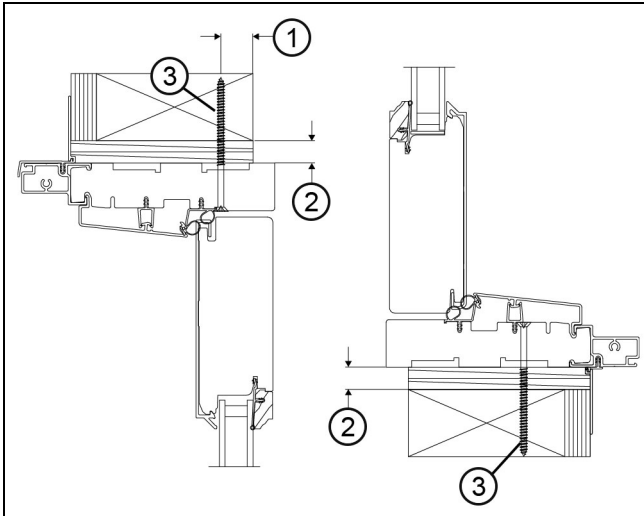
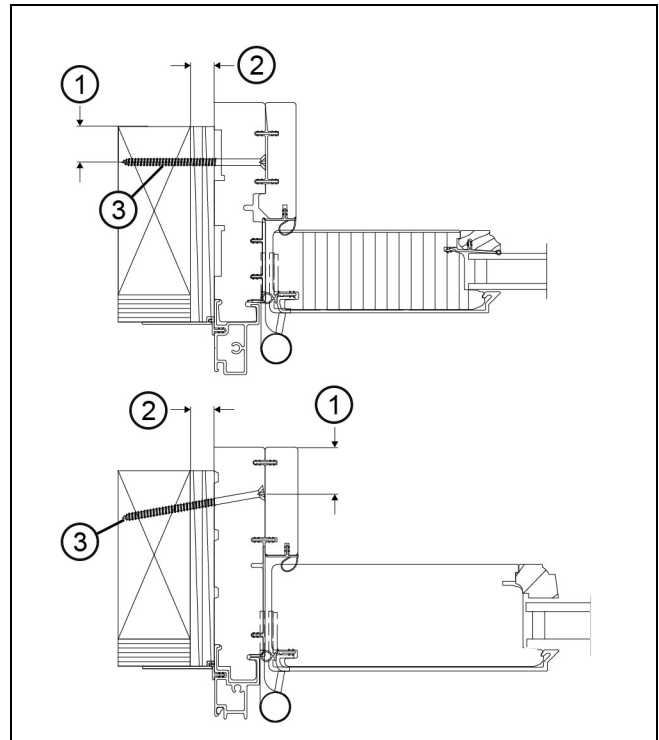

Figure 1 Inswing Operator and Stationary/Transom
Figure 2 UOFD (top) and UOFD 2.25 (bottom)
1. Once the unit has been properly shimmed, plumbed, and squared fasten unit to wood buck/rough opening with minimum diameter of a #8 wood screw. Length of jamb screws may vary depending on type of unit, location and operation of the panel with a minimum buck penetration of 1 1/4" (32). A minimum jamb screw length of 3" (76) is required. Screws must be a minimum of 1" (25) from edge of buck. Place the screw 6" (152) from each corner, maximum 12" (305) on center, with a minimum of 2 per side. See Figure 1 for fastening detail for Inswing doors, Figure 2 for Outswing doors, and Part Stop Removal and Replacement on page 6 for Clad exterior stop removal instructions.